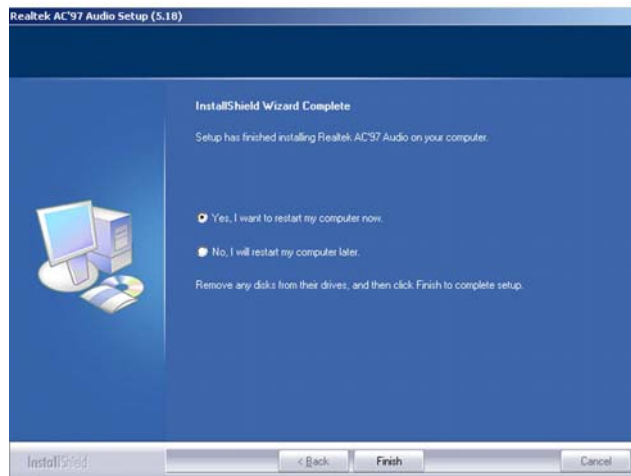

Figure 7-12: Audio Driver Installation Complete
Step 7: After the driver installation process is complete, a confirmation screen shown in **Figure 7-12** appears
Step 8: The confirmation screen shown in **Figure 7-12** allows user to restart the computer immediately after the installation is complete or to restart the computer later. For the settings to take effect the computer must be restarted. Once decided when to restart the computer, click the “**Finish**” button.